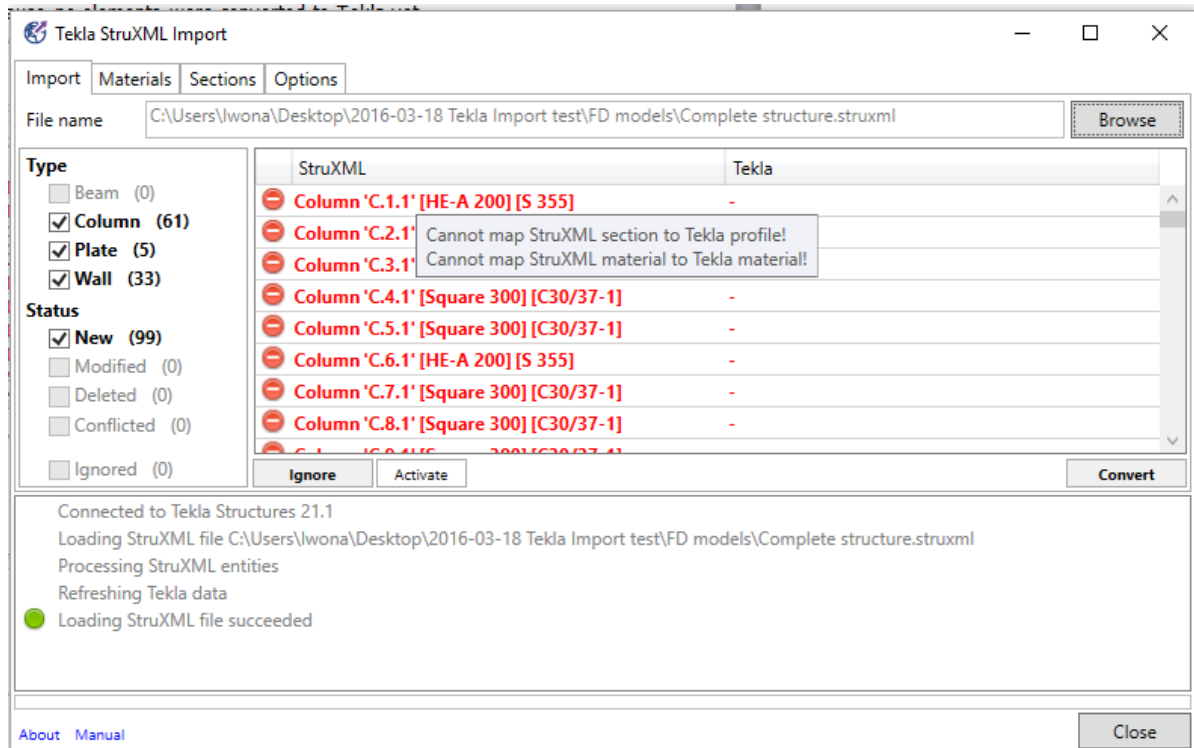

Figure 2-5
- In Tekla column, one can see a list of corresponding objects that have been converted to Tekla (before the elements are converted, the Tekla column will be empty - Figure 2-5).